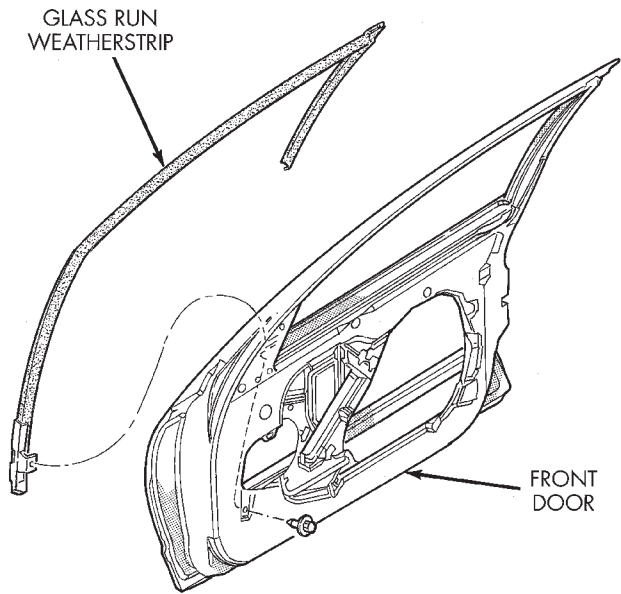

Fig. 39 Door Glass Run Weatherstrip
- (1) Remove door trim panel.
- (2) Remove door glass.
- (3) Remove bolt holding bottom of front lower run channel to inner door panel.
- (4) Pull glass run weatherstrip from door glass opening frame.
- (5) Remove lower run channel through opening at top of door (Fig. 39).